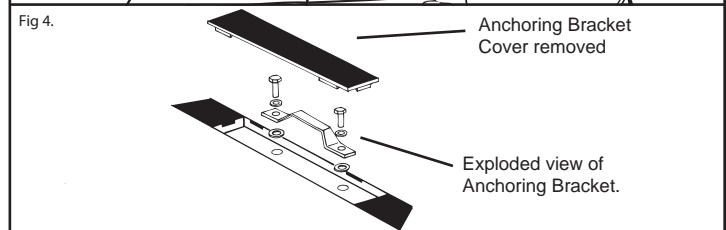

Fig. 5
6. Place the Rubber Pad onto the vehicle roof under each Retaining Strap. **NOTE:** The pointier end of the Rubber Pads faces towards the front of the vehicle (Fig.5).